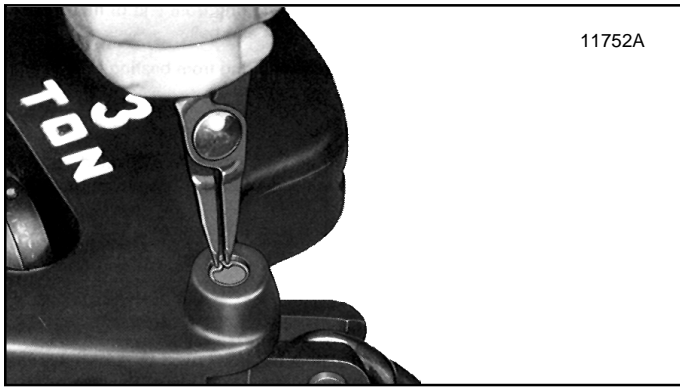
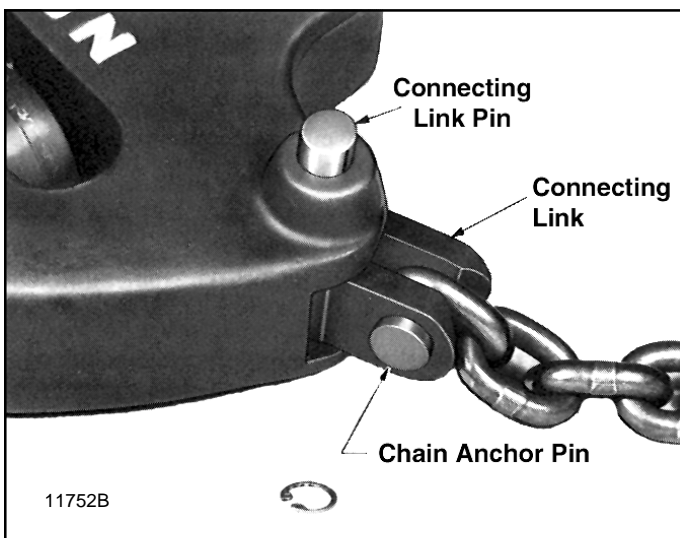

Figure 7-27. Removing Retaining Ring From Bore of Connecting Link Pin - Triple Reeved Lower Block Assembly
Figure 7-28. Removing Connecting Link Pin From Triple Reeved Lower Block Assembly
- (1) Remove chain sprocket from lower block following procedure for double reeved models described in Paragraph 7-5.b.(1) above.
- (2) To disconnect end of chain anchored to lower block, remove retaining ring from pin bore (Figure 7-27). Push connecting link pin from bore by pressing through hole provided in opposite side of block (Figure 7-28). Chain connecting link is now free and can be further disassembled for inspection.
- (3) To remove hook from lower block body, first drive grooved pin from hook nut. Then hold nut from turning using drift punch and rotate hook to unscrew it from nut. Separate hook, shroud and thrust washer from body. Note that bearing surface of washer faces nut.
- (4) To remove chain sprocket from upper suspension hanger, first remove hanger as outlined in Paragraph 7-2.a.(4). With hanger removed, push sprocket pin from hanger and sprocket. Note: Sprocket pin must